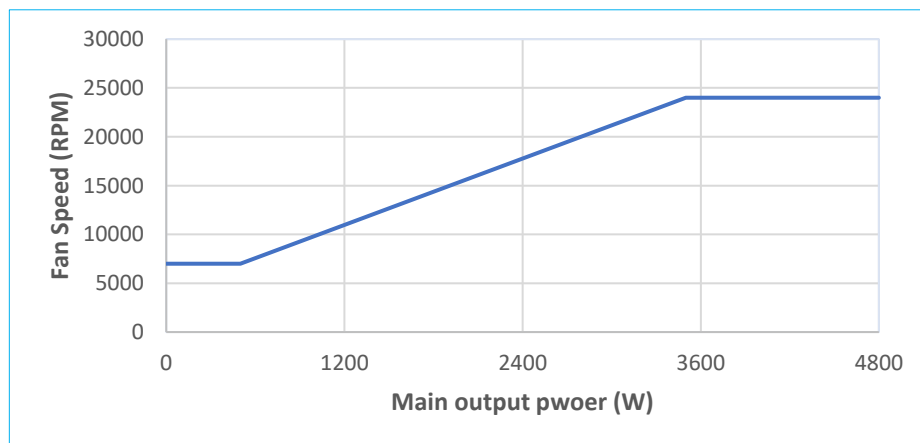

Figure 9. Fan speed versus main output power
- Fan Speed vs Load Power curve, see Figure 9. This curve is in use at nominal conditions.